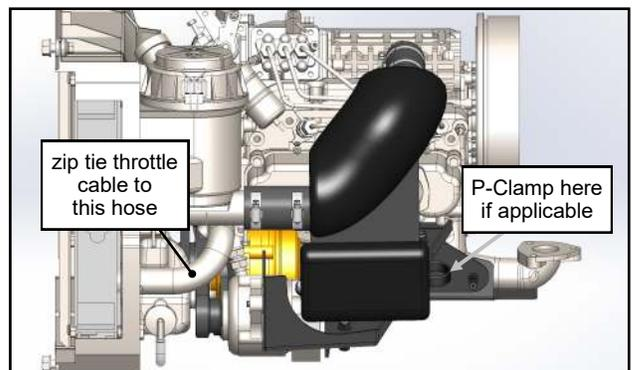

Fig. 2.25 (Secure Throttle Cable & Heater Line)
**2.26** If vehicle is equipped with optional heater, route the coolant line over the top of the engine and use the supplied P-Clamp to attach to 1 of the 3 optional mounting holes on the side flange of the upper auxiliary alternator bracket. See fig. 2.25.